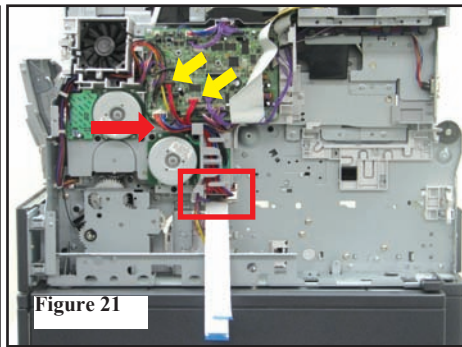
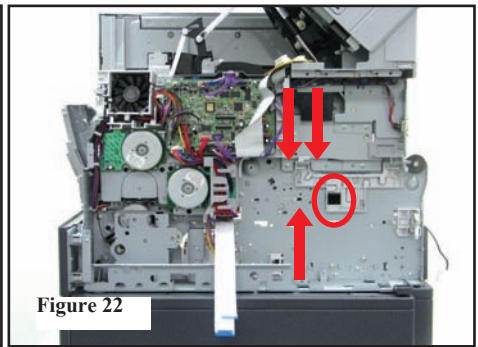

Figure 21
Figure 22
20. Disconnect white ribbon cables from DC Controller and let hang, then disconnect red cables (Figure 21, yellow arrows) as well as the blue and red cable (Figure 21, red arrow) also from DC Controller. Then push back through hole (Figure 21, red square) so all cables hang under the power supply. Push PFC cables through hole (Figure 22, red circle), then remove 3 screws (Figure 22, red arrows) in recessed area.